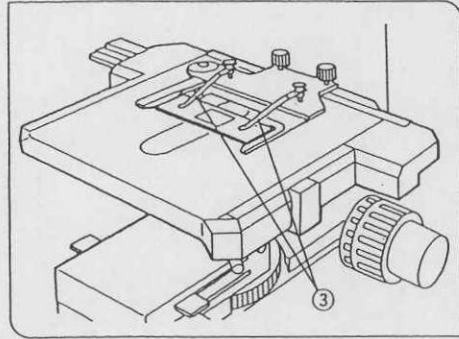
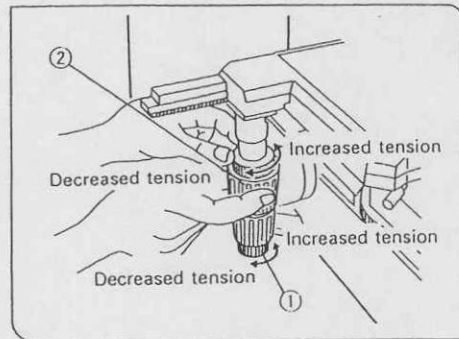

Fig. 39
Fig. 40
1. Loosen the filter cassette clamping screw ①. (Fig. 39)
2. Holding the filter cassette above the light exit glass, align the key ② with the slot ③ and press the filter cassette into place from above.
3. Rotate the filter cassette to align its sides with the base. (Fig. 40)
4. Align the clamping screw ① with the positioning hole ④ on the light exit, then tighten the screw to fasten the filter cassette.
2 Adjust the Tension of the X and Y Axes Knobs (Fig. 40)